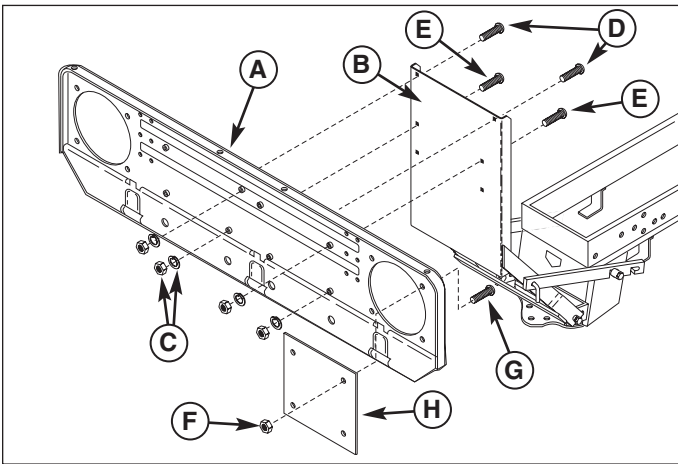

Figure 6. Install LH Discharge Back Plate
1. For units with left side discharge use the set of holes on the right side of the back plate. For units with right side discharge use the set of holes on the left side of the back plate. Attach the back plate (A, Figure 6 & 7) to the front plate (B) using carriage bolts, lockwashers, and nuts. Use two 5/16-18 x 3/4" carriage bolts (D) in the top two holes, and two 5/16-18 x 1-1/4" carriage bolts (E) in the bottom holes.
2. For units with left side discharge the cover plate mounts to the right side of the back plate. For units with right side discharge the cover plate mounts to the left side of the back plate. Install the cover plate (H, Figure 6 & 7) on the back plate (A). Secure with four 5/16-18 x 1 capscrews (G), and locknuts (F).